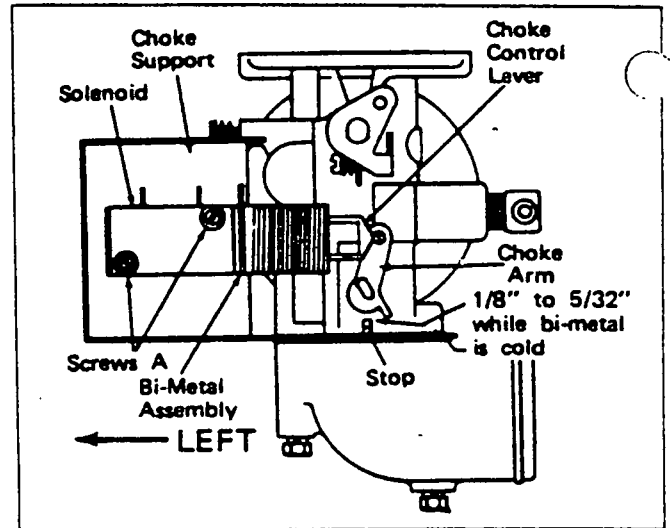

Figure 15
D.) Make sure that the bi-metal assembly is cold. Then check for 1/8" to 5/32" clearance between the choke lever and its stop (figure 15).